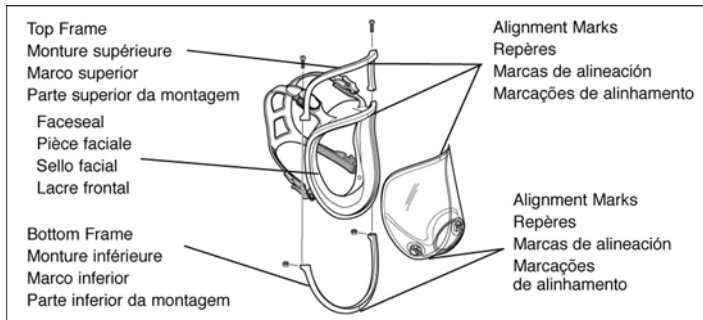

Fig. 3
3. Remove the (2) phillips screws from the lens/face seal frame. Pull the frame top and bottom away from face seal.
5. Place new lens and face seal together aligning marks at top and bottom. Position top and bottom frame, again aligning marks top and bottom. (Fig. 3) Install and securely tighten screws. Make certain alignment marks are properly aligned top and bottom with all components.